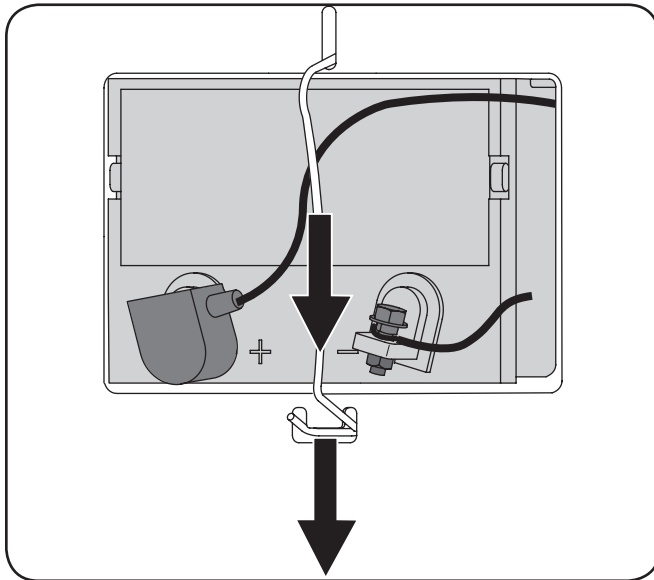

Figure 7-1
1. Push down and back on the battery hold-down bracket as shown in Fig. 7-1 to free it from the seat mount frame.